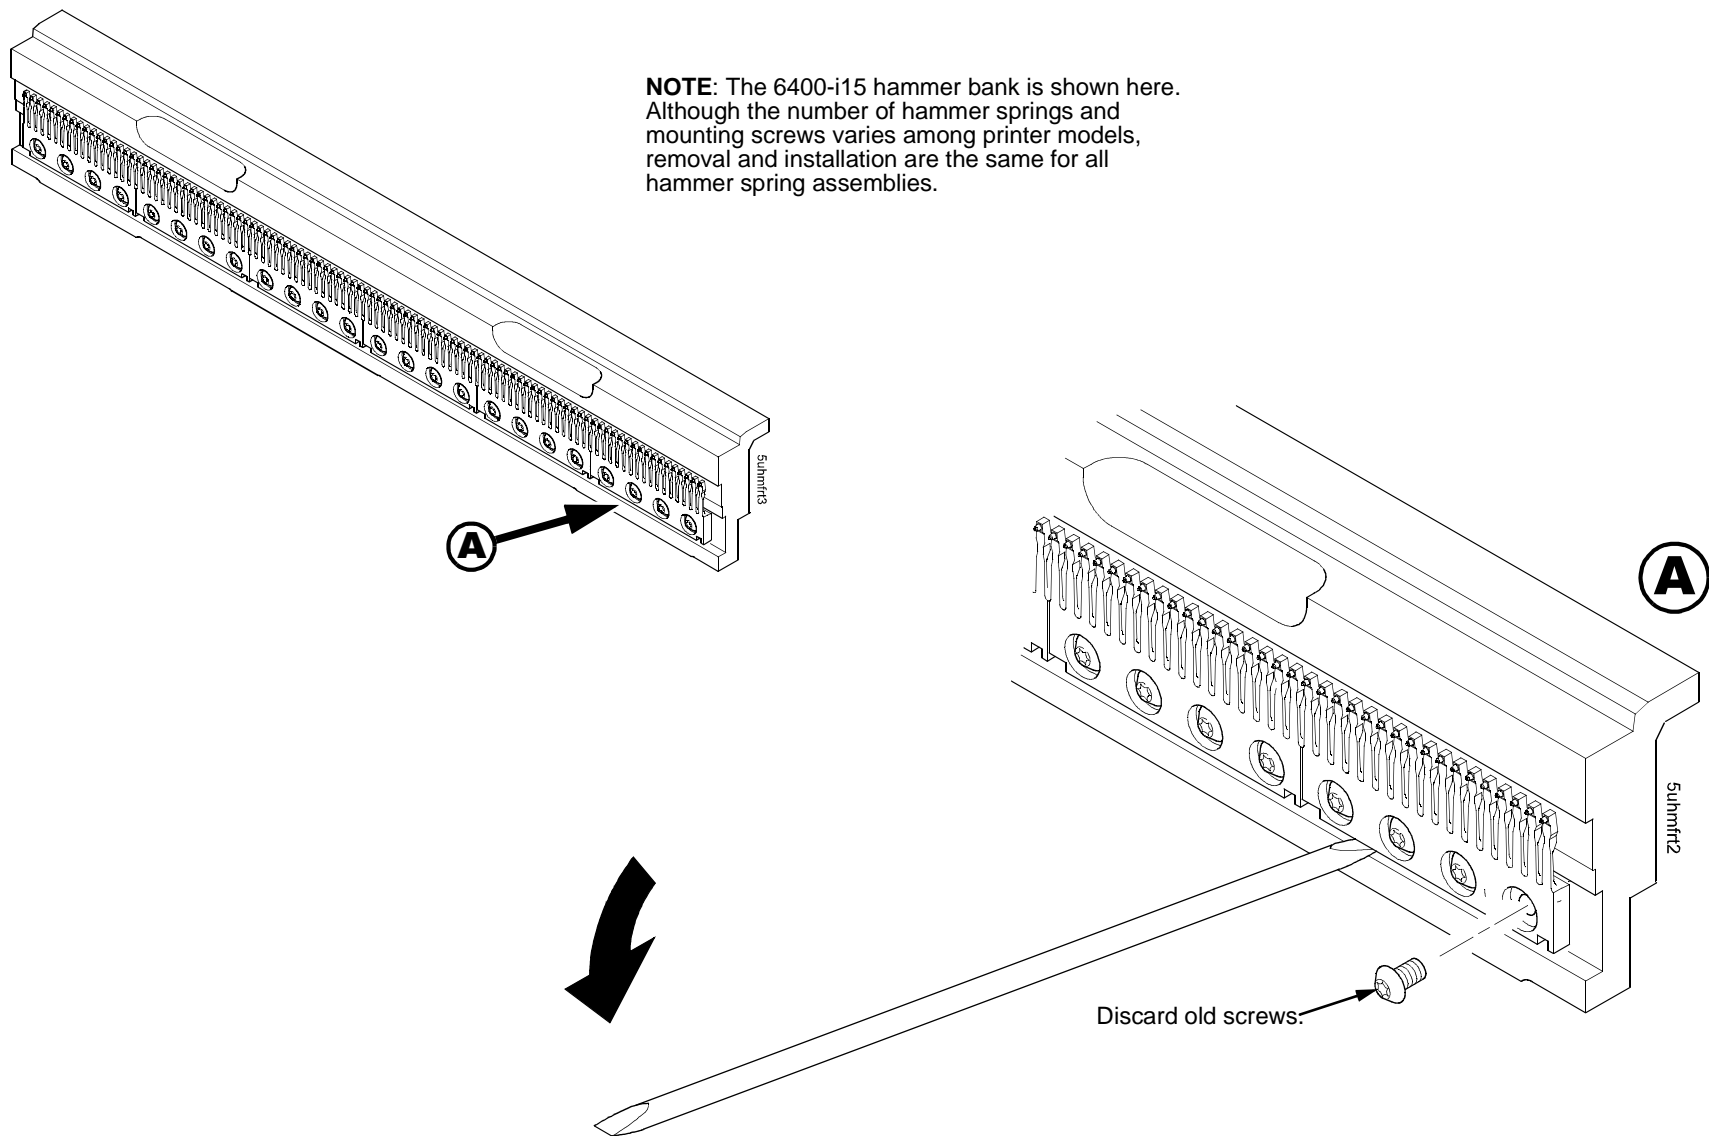

Figure 18. This figure shows how to remove a hammer spring assembly from a single hammer bank.
5. Remove the mounting screws from the old hammer spring assembly. (See Figure 18, page 367.)
6. Handling the hammer spring assembly by the mounting base only, gently pry the old hammer spring assembly off its mounting pins. (See Figure 18, page 367.)